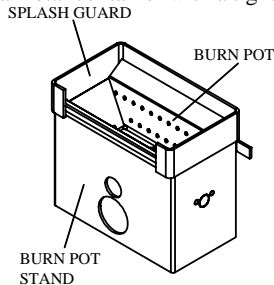

Figure 24. Burn pot stand assembly.
4. Remove the burn pot, burn pot stand and splash guard (Figure 24) and clean them thoroughly. Lift the burn pot and splash guard to remove. Lift up on the burn pot stand and pull towards you to remove. Make sure there are no ashes remaining in the burn pot stand and that all the holes in the burn pot are clear. Failure to do so can be a fire hazard. Place all ashes into a metal container with a tight fitting lid.